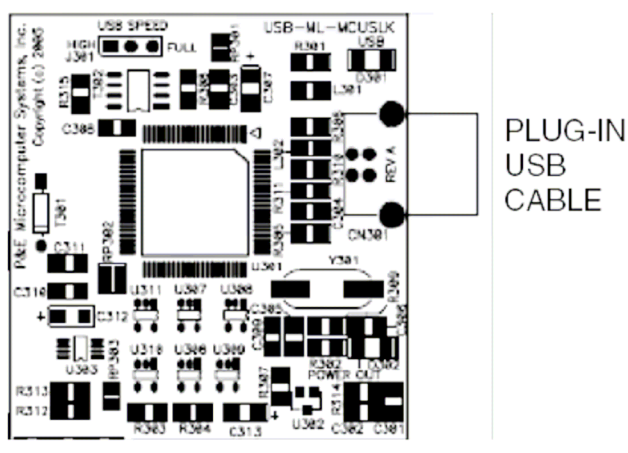

Figure 4. Installation of USB Cable
- Connect the other end of the USB cable to the USB connector on the project board. Figure 4 illustrates the USB connector on the project board for the BDM Multilink pod interface to power, program, erase, and debug the application module board.